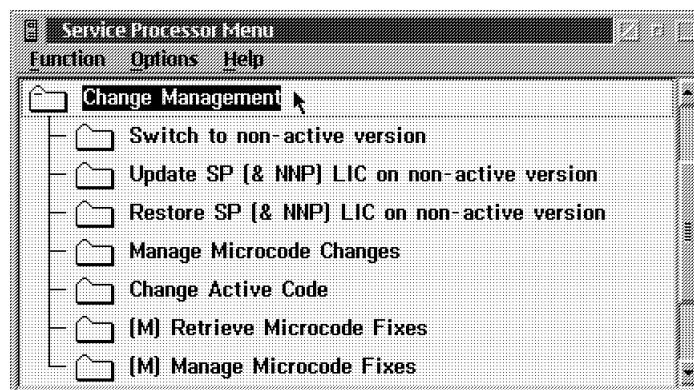

Figure 1-17. Service Processor Change Management Functions
3. Double-click **Manage Microcode Change** (see Figure 1-17 on page 1-9).